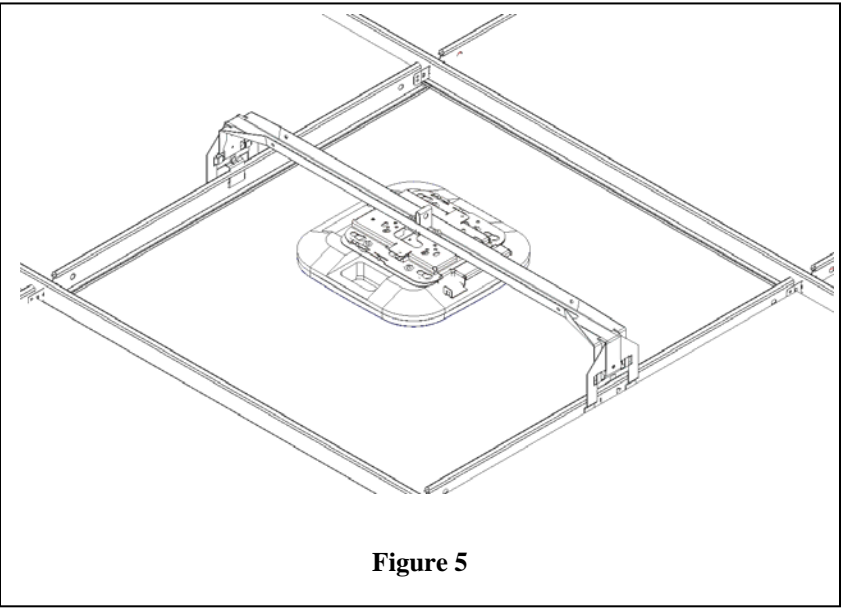

Figure 5
Step 5 – Remove ceiling tile where above ceiling tile mount will be located. The assembled unit should snap into place to the ceiling grid work by the hanger bar extension on both ends. This secures the mount and access point above the ceiling (Figure 5).